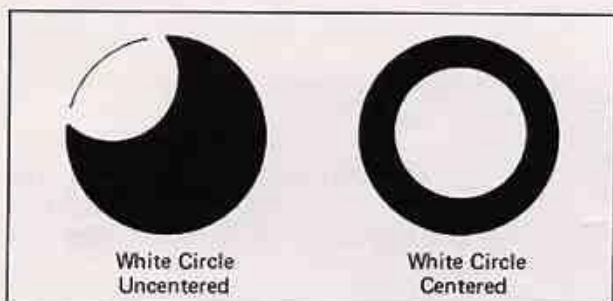

Figure 10. No.'s 214F and 218F Darkfield Condensers
- a. With the 10X objective, focus on the specimen. A disc of light will appear against a dark background. Gently adjust the height of the condenser to establish a well defined border between the disc of light and the dark area (Figure 10).